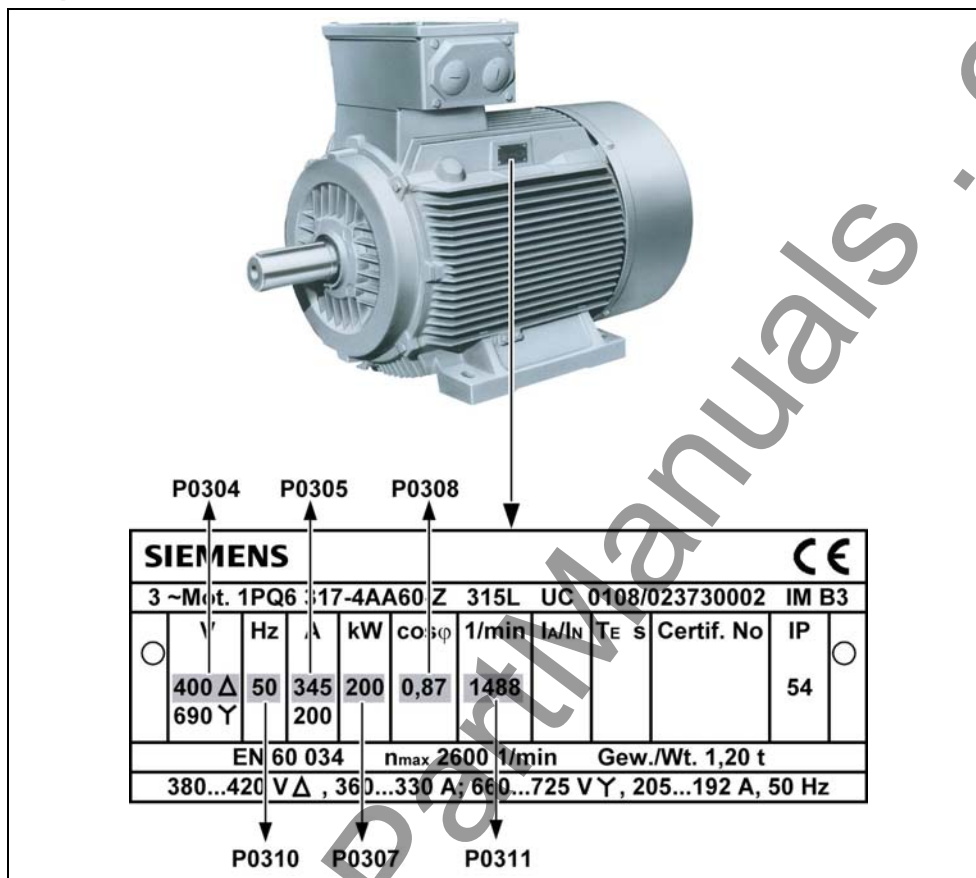

Figure 3-8 Typical Motor Rating Plate Example
3. The inverter is programmed at the factory for standard applications on Siemens four-pole standard motors that have the same power rating as the inverters. When using other motors it is necessary to enter the specifications from the motor's rating plate. See Figure 3-8 for details on how to read motor data.